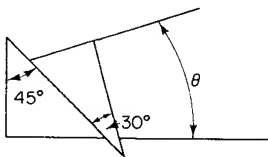

Fig. 7
18. Set squares are placed together as shown in Fig. 7. The angle θ is